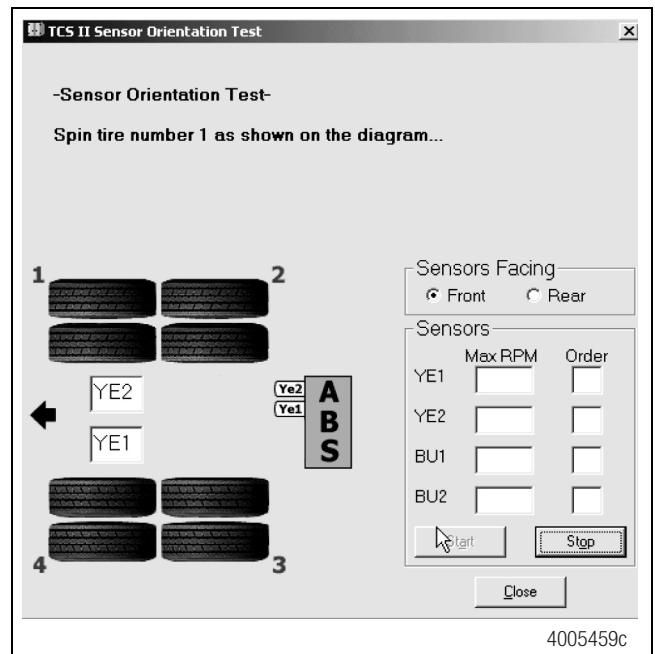

Figure 19
- Click on **Start** to begin the test. Figure 19.